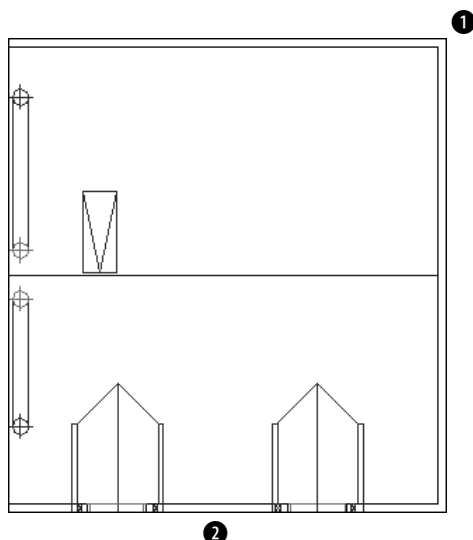

Figure 10-25: A plan view of a garage.
2. Save the file as ab10-08.dwg in your AutoCAD Bible folder. This drawing is the plan view of a garage, as shown in Figure 10-25. Turn on polar tracking by clicking POLAR on the status bar. Click SNAP on the status bar and then right-click SNAP to make sure PolarSnap is on (the PolarSnap item will be unavailable if it is already on); otherwise, choose PolarSnap. Turn on OSNAP and set a running object snap for endpoints.
3.  Choose Stretch from the Modify toolbar. At the Select objects: prompt, pick **1** in Figure 10-25. At the Specify opposite corner: prompt, pick **2**. The prompt notifies you that it found 32 objects. Press Enter to end object selection.